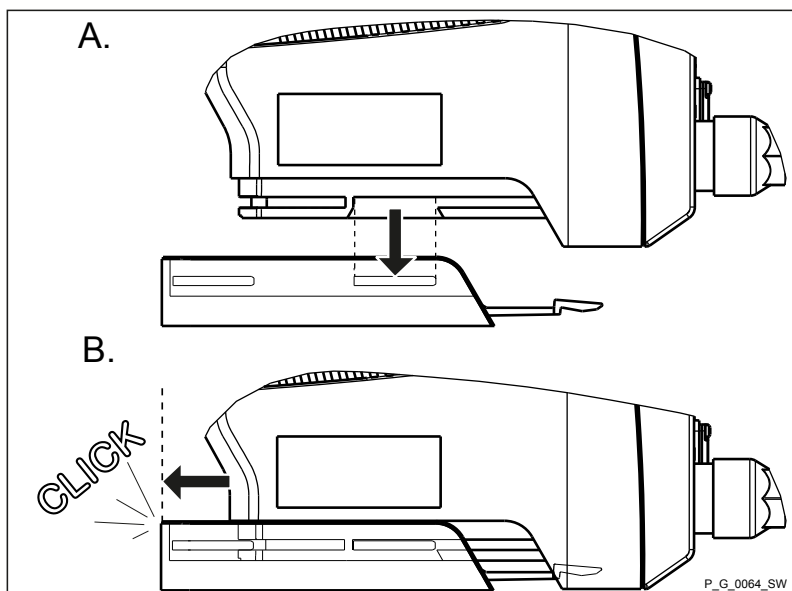

Fig. 10
3. ➤ Lock the foot of the metering pump into the mounting plate – see Fig. 10.